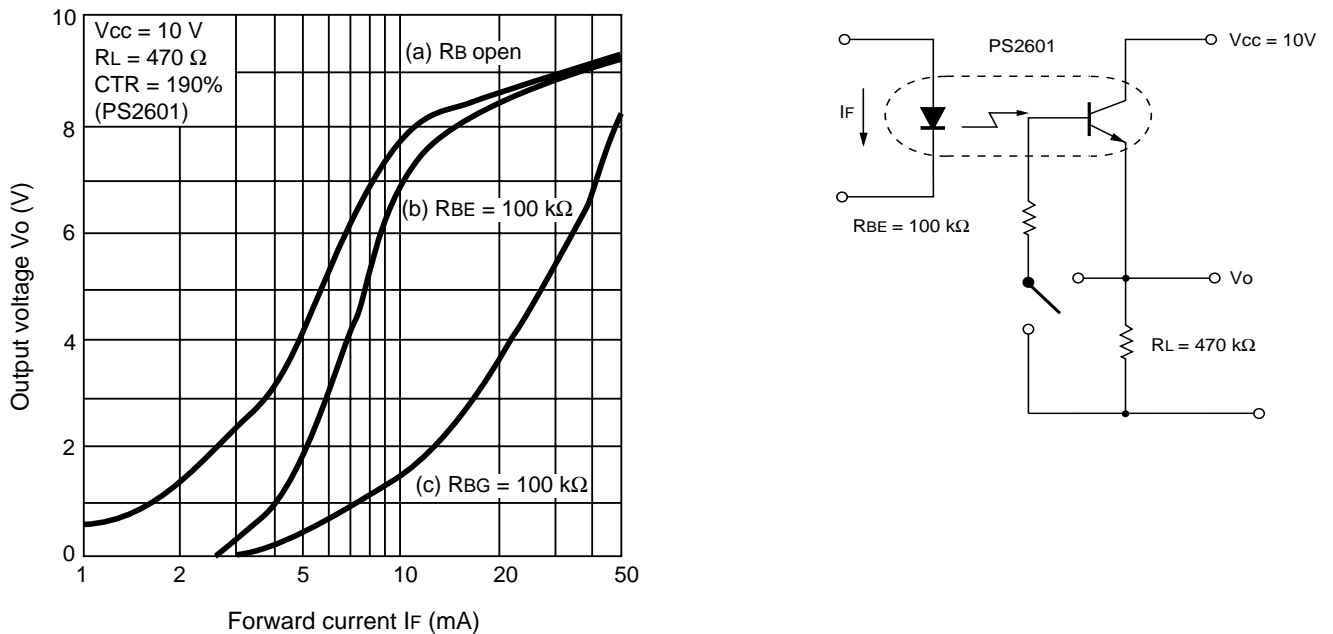

Figure 3-5. V_0 vs. I_F Characteristics
When resistor R_{BE} is serially connected to resistor R_L (see Fig. 3-4 (c)), the reduction of a CTR becomes greater even if hFE_2 is approximately equal to hFE_0 in expression (8) as the expression includes R_L as a parameter. Fig. 3-5 shows typical V_0 vs. I_F characteristics of the above circuits (a), (b), and (c).